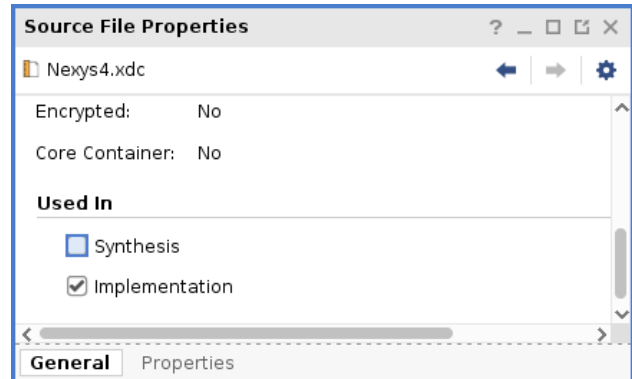

Figure 12: Uncheck Used In Synthesis
41. Often, the XDC file will need to be changed. To make it so the project does not need to be resynthesized when this happens, in the **Source File Properties** pane with the XDC file selected, scroll all the way down to the **Used In** section and uncheck **Synthesis** as shown in Figure 12.